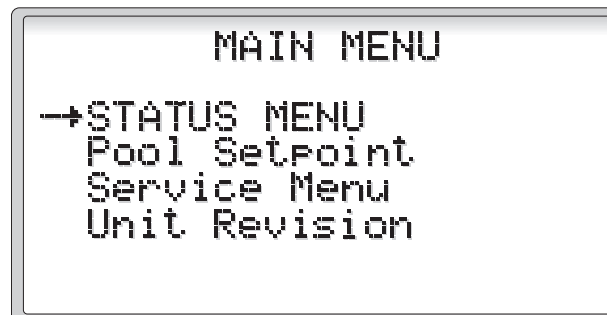

Figure 2
2.2. Main Menu (Figure 2)
Pressing the **Esc** key from the Home Screen displays the MAIN MENU (Figure 2). This menu allows the operator to select the STATUS MENU, Pool Setpoint, Service Menu or view the Unit Revision.